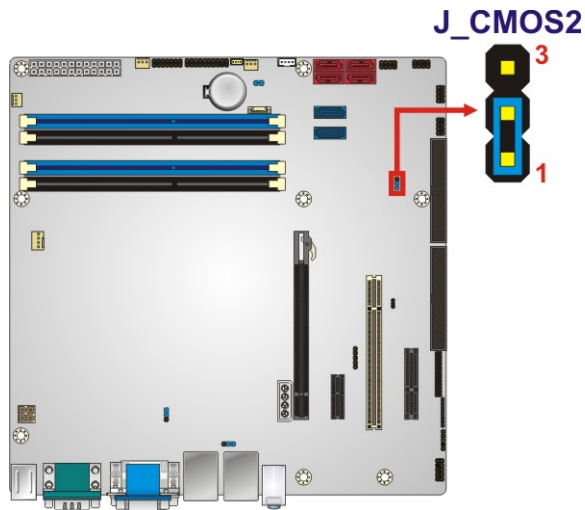

Figure 4-7: Clear BIOS Jumper Location
- Jumper Location:** See Figure 4-7